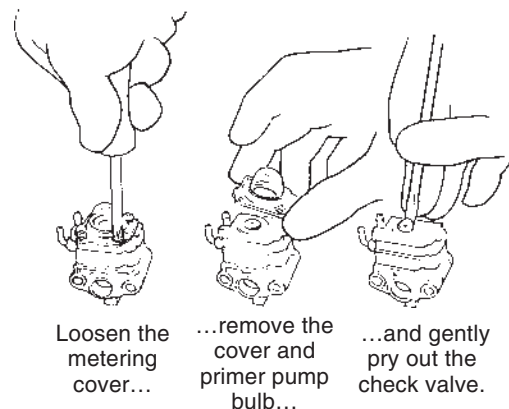

Figure 3.21 Servicing the check valve
**STEP 1.** Unscrew the four metering cover retaining screws, and then remove the cover, primer pump bulb (Figure 3.21), and the plastic purge body assembly.